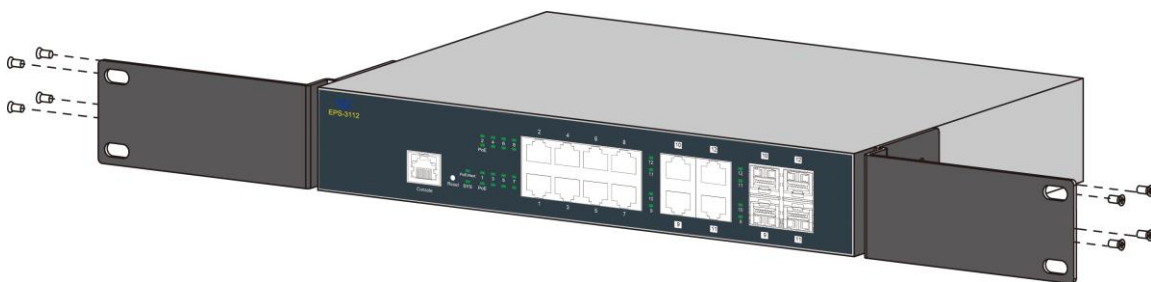

Figure 2-1. EPS-3112 Switch Mounting
**Step 2.** Attach the supplied rack mounting brackets to the switch (See Figure 2-1):
- Step 3.** Insert the screws provided in the rack-mount kit through each bracket and into the bracket mounting holes in the switch. Then, tighten the screws with the screwdriver to secure each bracket. (See Figure 2-1)